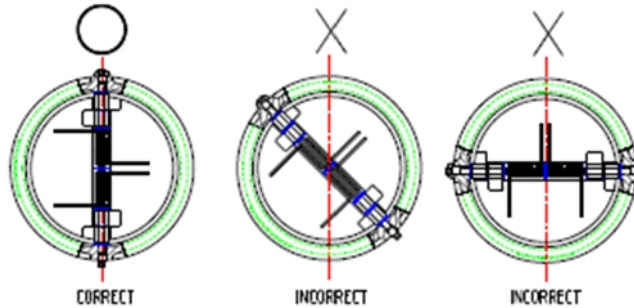

Figure 4
Step 4. We suggested that Top Check can be in compliance with figure 4 to install.